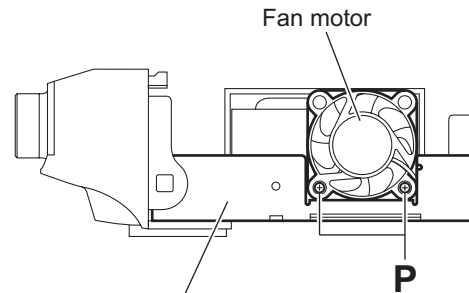

Fig.17
- From the right side of the main body, remove the two screws **P** and take out the fan motor from the chassis base. (See Fig.17.)